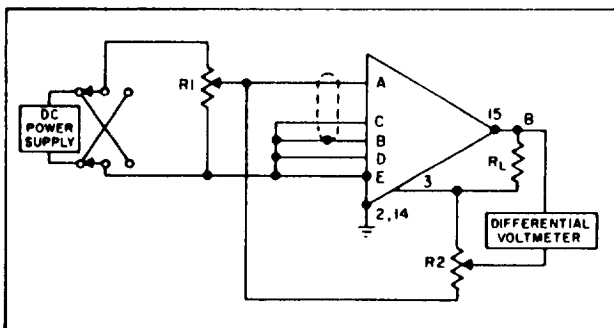

Figure 6-4. D-C Gain Linearity Test Circuit (G<1)
- 1) Connect the amplifier as shown in Figure 6-4. R1 and R2 are the same as before.
- 7) Adjust R2 until the voltage between A and B, as indicated on the differential voltmeter, returns to the null point established in step (5).
- 8) Rotate R1 until the voltage at the amplifier input is again zero volts. If the reading differs from that established in step (5), repeat steps (5), (6), and (7) until the voltmeter indicates a null at each step when applying zero or full scale input voltage (+6.25 volts or +25 volts).